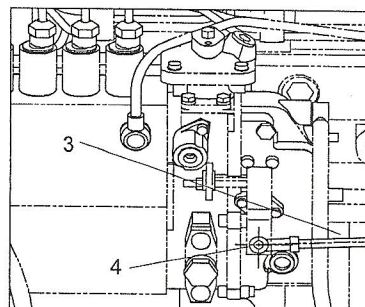

Fig. 05-14
(1) Shut down the engine.
(2) Remove the cable (1) at the bottom of accelerator pedal (under the operation cab floor), and check to see if the installation plate (2) and other pedal-related parts are flexible (Please see 05-13).
(3) Remount the cable (1) to the pedal bottom, and dismount another end of the steer bar at the oil-spray pump, and check to see if the cable (3) and ball-connector (4) are flexible (Please see Fig. 05-14).
△ The travel limit of the adjustment lever could be adjusted via the ball connector (4) (Please see Fig. 05-14).